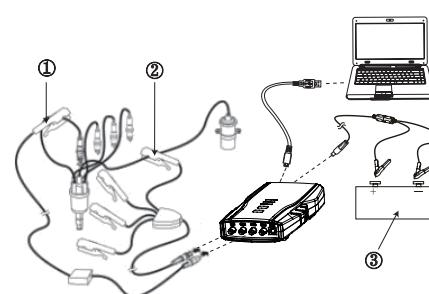
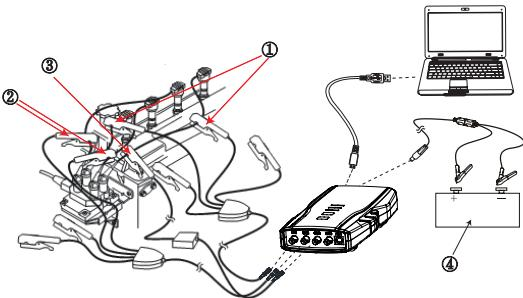

Fig. 52: Equipment connection of traditional ignition
Fig. 53: Equipment connection of double end ignition
Traditional ignition / Direct ignition: Connect BNC end of 1 cylinder signal to CH3 of KT720 , use signal clip to clip high voltage line of one cylinder of engine. Please check that there is "This side faces to spark plug" on the signal clip, do not clip reversely; connect BNC end of capacitive pickup to CH1, and then use capacitive pickup to clip high voltage line of each cylinder. As shown Fig.52 for connecting method.
Double end ignition: Connect BNC end of 1 cylinder signal to CH3 of KT720 , used for synchronization of cylinder signal, use signal clip to clip high voltage line of one cylinder of engine. Please check that there is "This side faces to spark plug" on the signal clip, do not clip reversely. Connect BNC end of one capacitive pickup to CH1, then connect the other end to positive of high voltage cylinder line. Connect BNC end of the other capacitive pickup to CH2, then connect the other end to negative of high voltage cylinder line. As shown Fig.53 for connecting method.
1. Connect equipment according to Fig.52 or Fig. 53, switch on power supply.